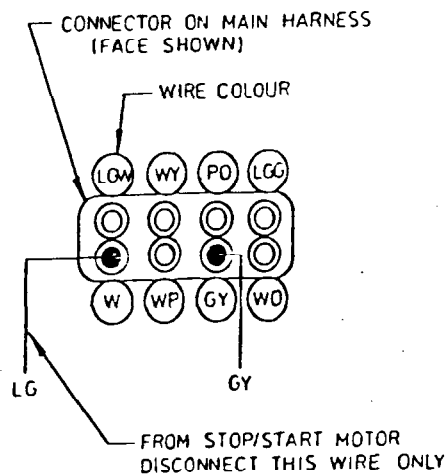

FIG 2 - WIRING CONNECTIONS
- f. Disconnect the connector block from the stop/start motor control relay (located on front of the scuttle, out board of brake pedal box). Locate the light green wire leading from the relay connector block and disconnect this wire from eight-way moulded connector of the main harness (Refer Fig 2). Disconnect the blue/red wire with the inline fuse.
- k. Reconnect the light green wire from the relay connector to the eight-way moulded connector of the main harness. (Refer Fig 2). Reconnect the blue/red wire with the inline fuse.